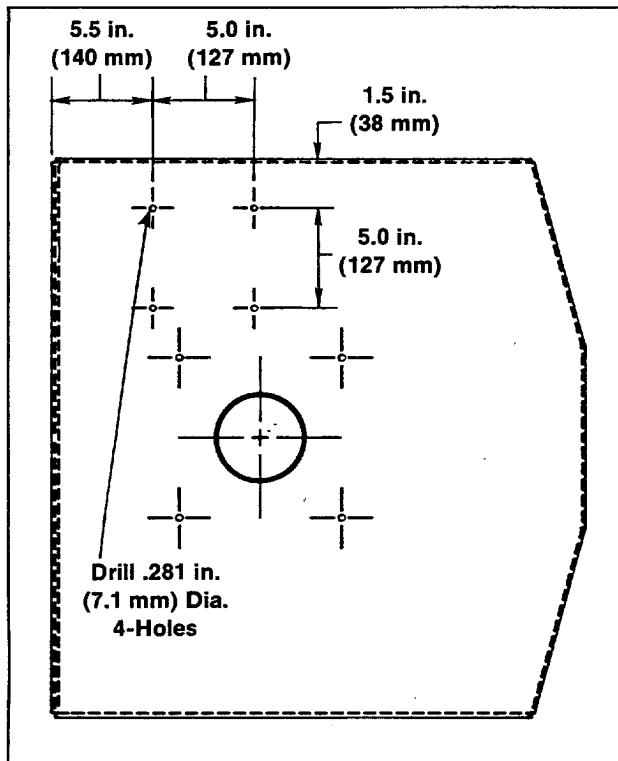

Figure 2b. Drilling Instructions for Electronic Controller
- On relay controller models, drill four .281 inch (7.1 mm) dia. holes in top of junction box using electronic controller as template. See Figure 2b.